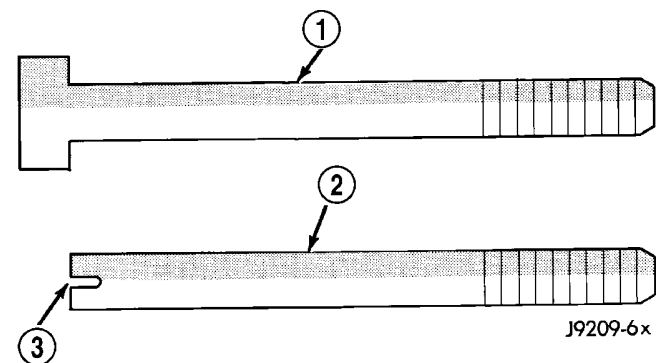

Fig. 77 Fabrication of Alignment Dowels
- (1) Clean the block and pan gasket surfaces.
- (2) Fabricate 4 alignment dowels from 1 1/2 x 1/4 inch bolts. Cut the head off the bolts and cut a slot into the top of the dowel. This will allow easier installation and removal with a screwdriver (Fig 77).